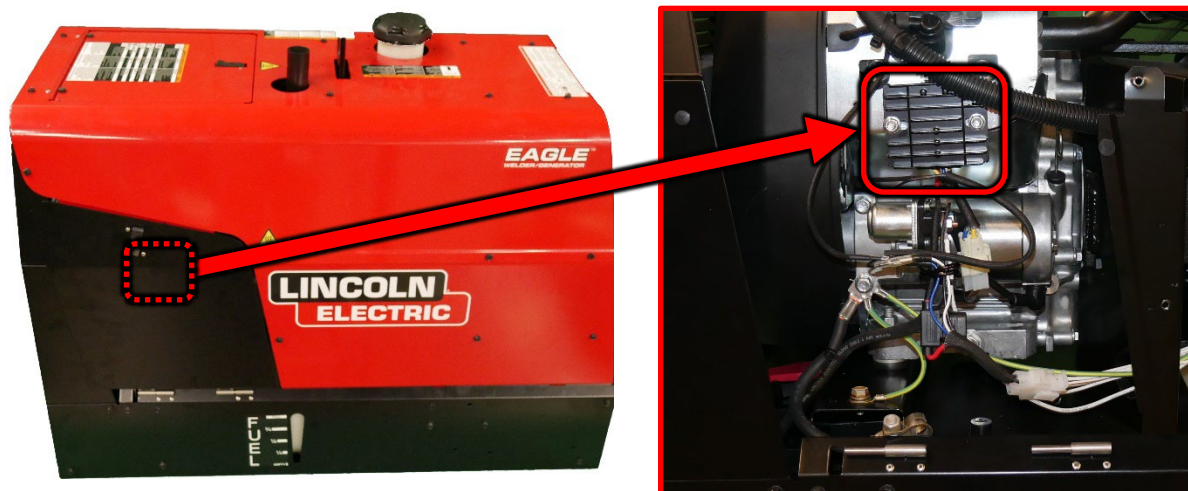

Figure F.1
1. For location of the Voltage Regulator refer to Figure F.1.